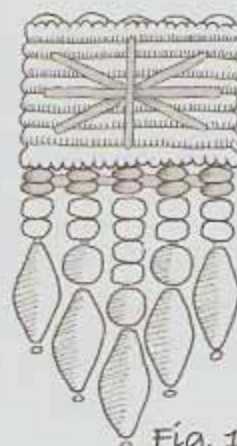

Fig. 14
- Add other beads of your choice to the 5 fringe cords. Finish each strand with an **OVK** (Overhand Knot) and a dab of clear nail polish or super glue. Let dry. Trim off the cord below the knot (see Figure 14).
- Now add beads of your choice to the 5 fringe cords. Finish each strand with an **OVK** and a dab of clear nail polish or super glue (see Figure 14).